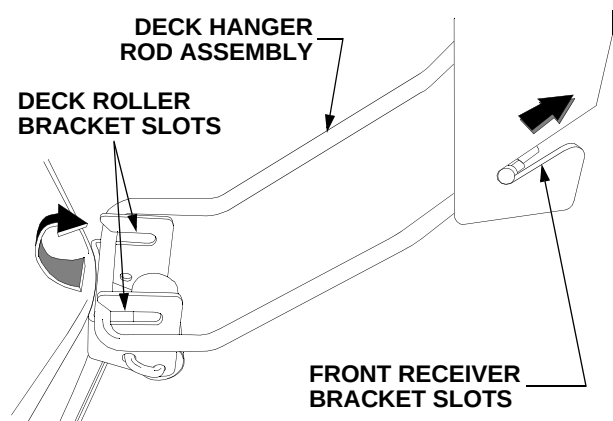

Figure 59
- Roll the deck forward to disengage the deck hanger rod from the slots of the deck front roller bracket. Lift the deck hanger rod and slide out of the slots in the front receiver brackets. See Figure 59. Store the deck hanger rod assembly with the deck to avoid misplacing it.
- While noting the forms (bends) in the rod are correctly positioned, slide the deck hanger rod into the slots in the front receiver brackets. Refer to Figure 59.
- From either side of the tractor, lift the deck hanger rod and roll the deck forward until the hanger rod aligns with slots of the deck front roller bracket. Lower the hanger rod into the front roller bracket slots and slide the deck rearward to engage the rod fully forward in the slots of the roller bracket. Refer to Figure 59.